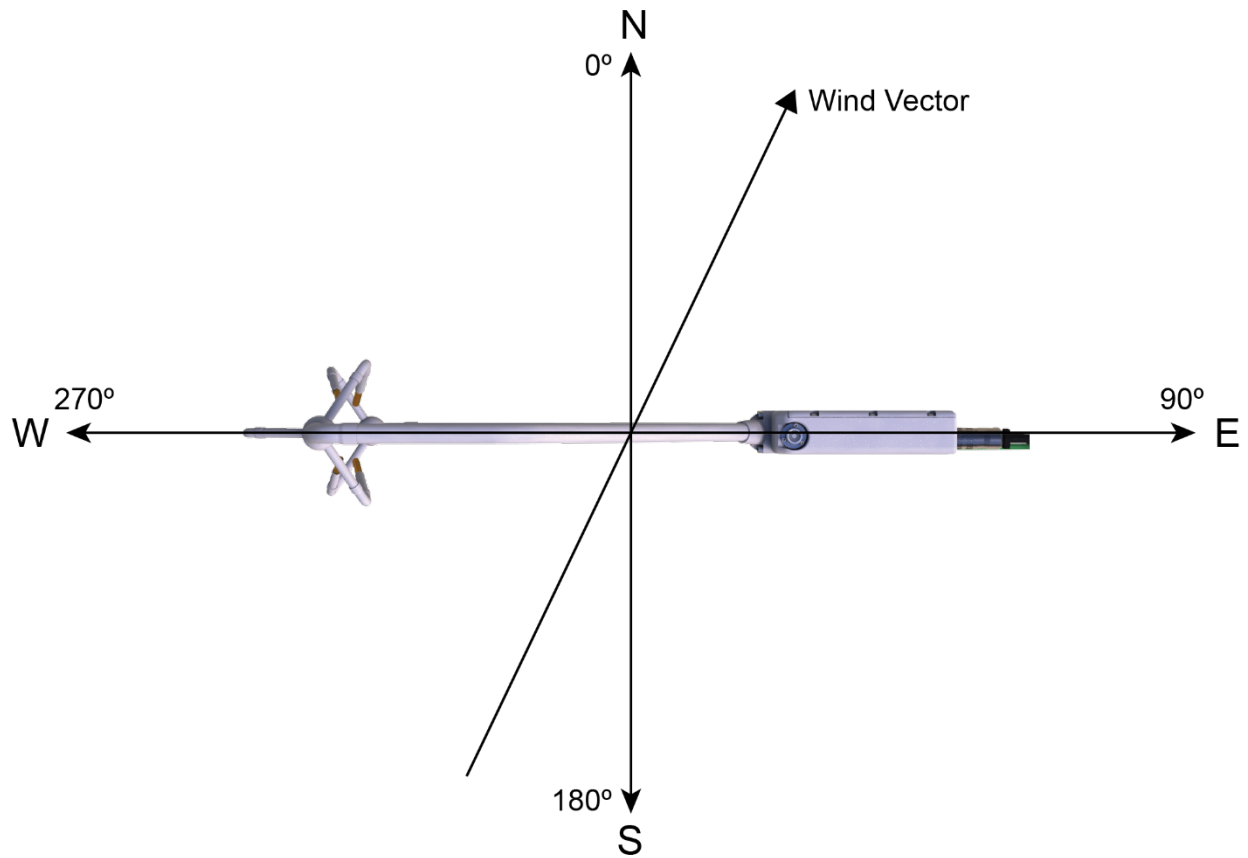
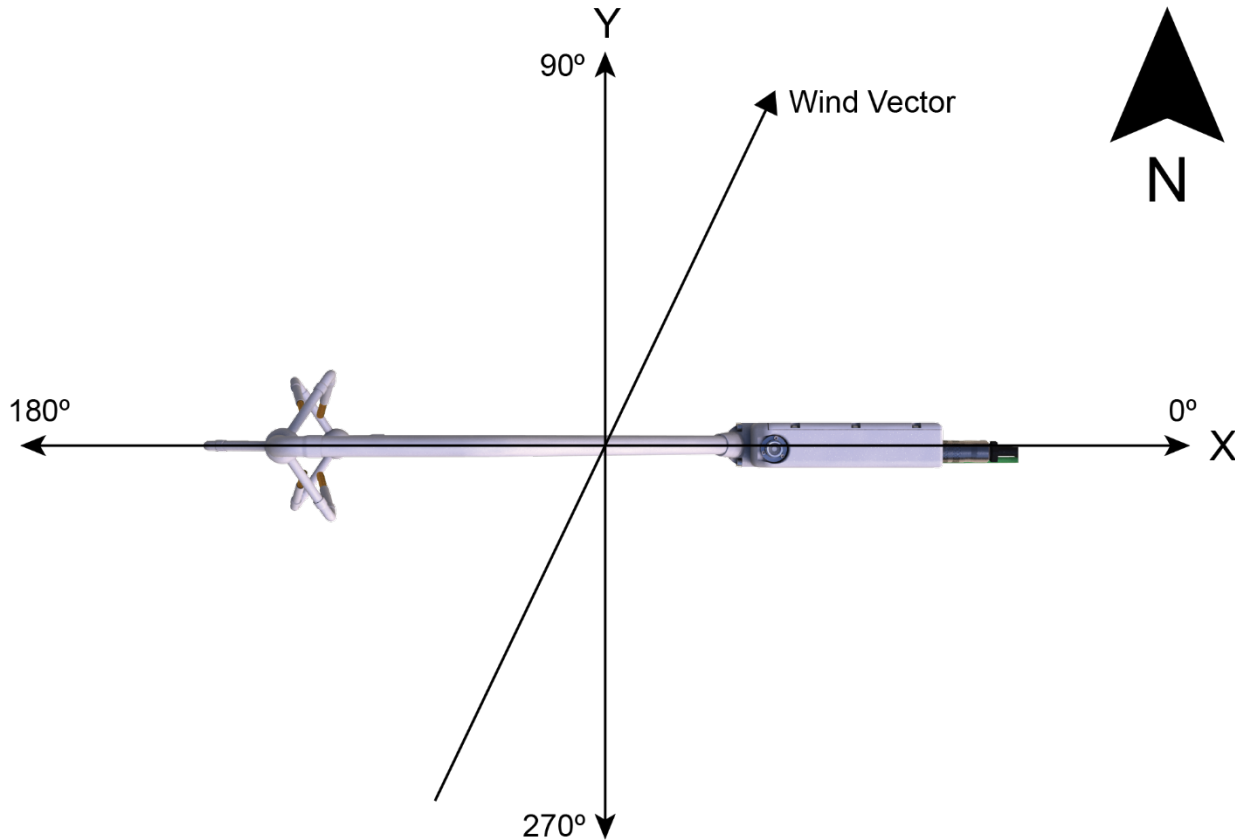

FIGURE 6-14. Compass coordinate system, compass wind direction is 200°. The sonic azimuth of the anemometer is 270°
FIGURE 6-15. Right-handed coordinate system, horizontal wind vector angle is 70°
*EasyFlux DL* reports the wind direction in both the sonic coordinate system (a right-handed coordinate system, FIGURE 6-14) and in the compass coordinate system (a left-handed coordinate system, FIGURE 6-15). To report the wind direction in the compass coordinate system, the orientation of the sonic must be known. The sonic coordinate system is relative to the sonic itself and does not depend on the sonic's orientation. The compass coordinate system is fixed to Earth. For the *EasyFlux DL* program to compute the correct compass wind direction, the azimuth of the sonic negative x-axis must be entered into the program. The output value for the compass coordinate system is **WD** and the output value for the sonic coordinate system is **WD\_Sonic**. The program default value for the variable **sonic\_azimuth** is 0. To report a true compass wind direction, an appropriate value for **sonic\_azimuth** must be entered into the program. The default is appropriate only if the sonic is mounted such that the negative x-axis points to the north.
FIGURE 6-14 and FIGURE 6-15 show the compass and sonic coordinate system. Both figures show the sonic's negative x-axis pointing to the west (compass azimuth of 270°). The wind direction is measured in degrees clockwise from due north. In the compass coordinate system, the wind direction (**WD**) is 200. To calculate the wind direction in FIGURE 6-14, the orientation of the sonic anemometer relative to due north is needed in the program. FIGURE 6-15 is in a right-handed coordinate system, and the wind vector direction is measured in degrees counterclockwise from the positive x-axis. Therefore, the wind vector direction (**WD\_sonic**) is 70°.